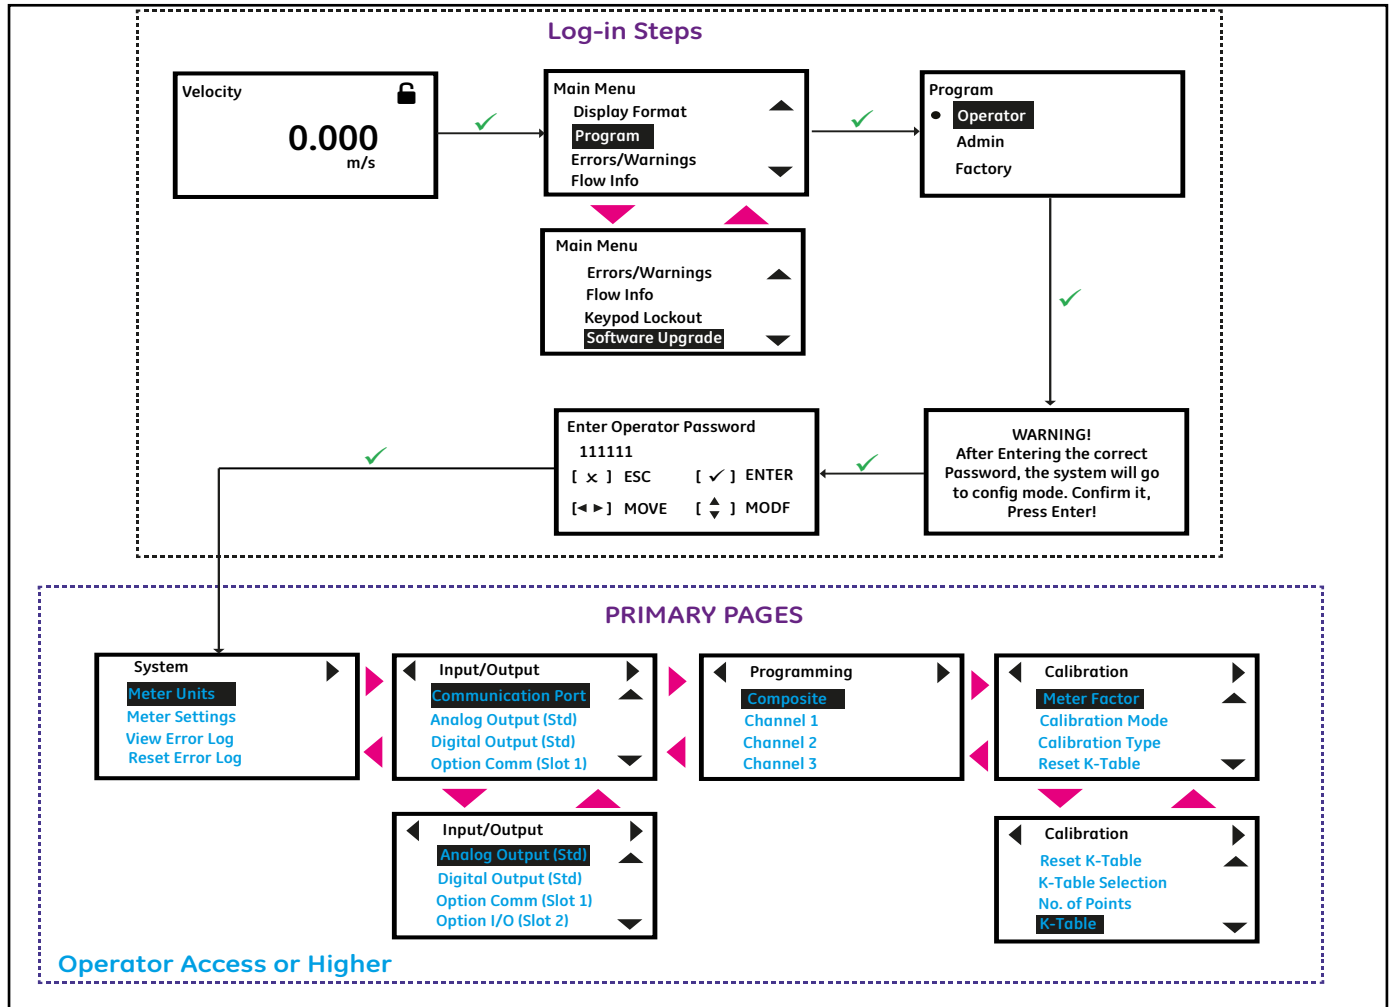

Figure 38: Log-in Steps and Primary pages
5. After completing the log-in steps you will see the primary pages as shown in the Figure 38. To move from one page to the next, press [◀] or [▶] and to scroll to options within a page press [▲] and [▼].